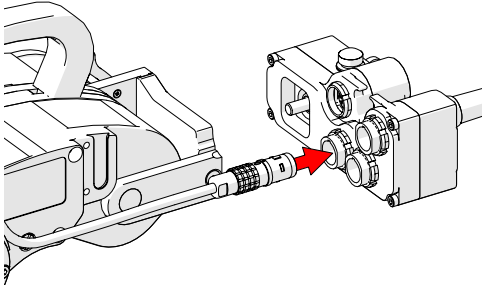

Fig. 102 - Connect to umbilical
4. Connect the right drive module's connector to the umbilical (*Fig. 102*).